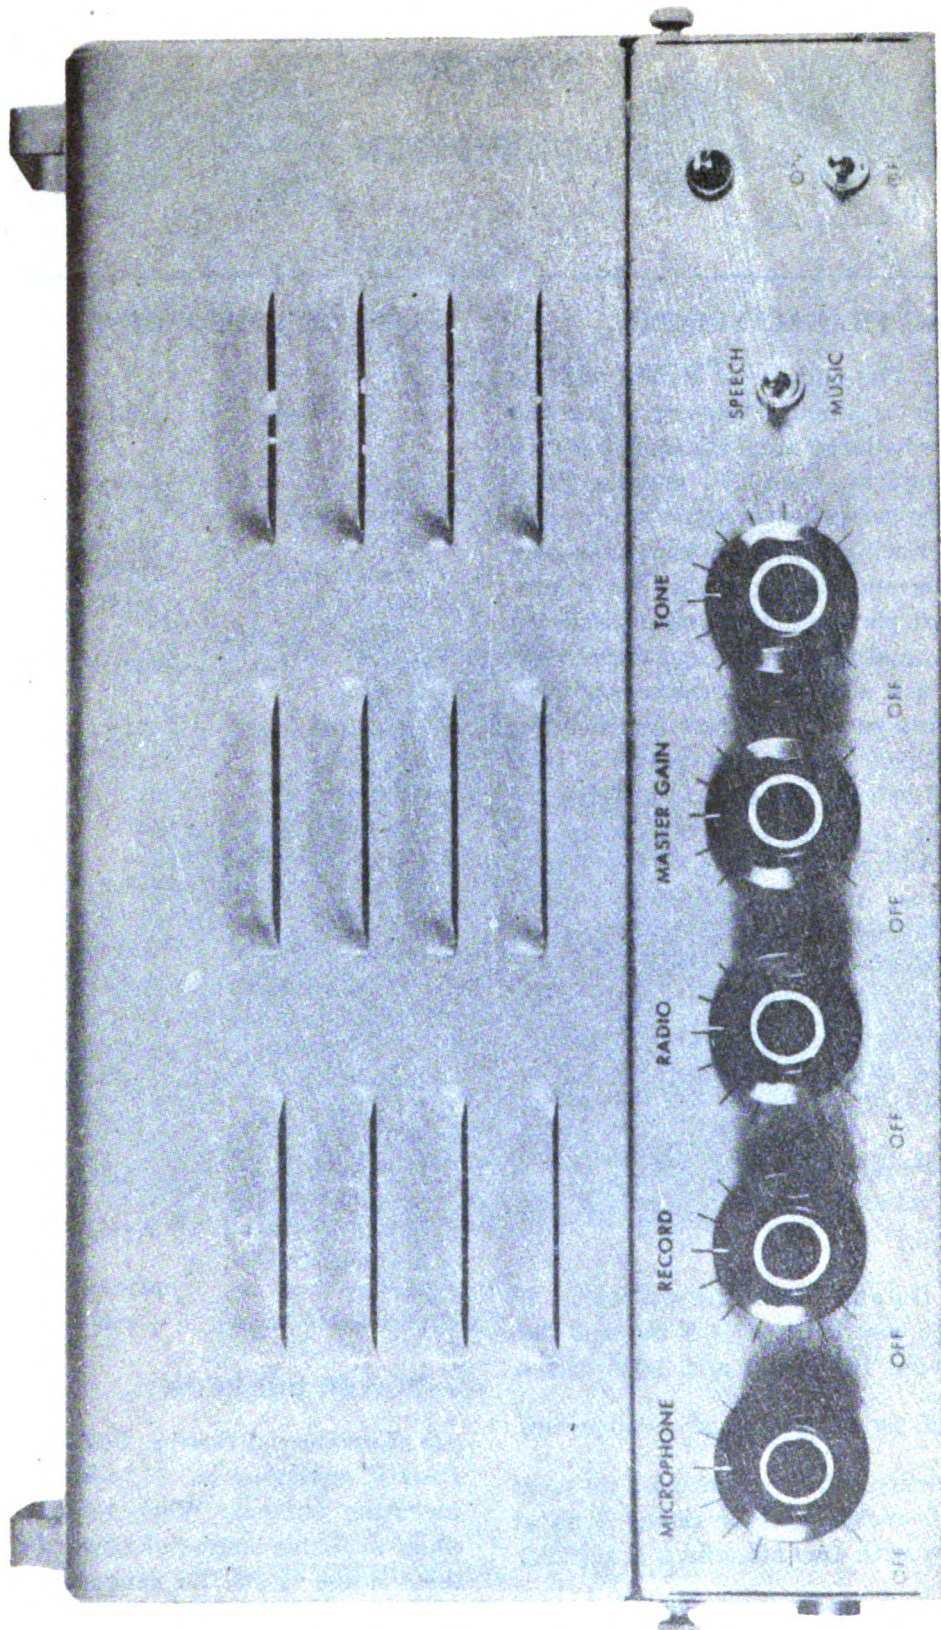

Figure 2. Public Address Set PA-1-F, amplifier, front view.
**a. Description.** The amplifier is housed in a gray metal case with two carrying handles on top. A weatherproof cover fits over the entire case for dust and rain protection when the amplifier is not in use. The operating controls MICROPHONE, RECORD, RADIO, MASTER GAIN and TONE, are on the front of the chassis. The SPEECH-MUSIC switch, the a-c ON-OFF switch, and a pilot lamp that glows red when the amplifier is being supplied with its proper voltage are also on the front panel (fig. 2). On the left side of the amplifier are the PARALLEL, RADIO, RECORD, and MICROPHONE input receptacles. The outgoing speaker line receptacle is located on the right side. The LINE VOLTAGE switch, the 4-ampere fuse receptacle, and the a-c cable are also located on the right side of the panel (fig. 3).
**12. AMPLIFIER INSTALLATION.** Remove the amplifier from its shipping box and place it on top of the box for operation. The controls facing the operator are: MICROPHONE, RECORD, RADIO, MASTER GAIN, TONE, SPEECH-MUSIC switch, pilot lamp, and OFF-ON switch. The left side of the unit has four receptacles: PARALLEL, RADIO, RECORD, and MICROPHONE. The right side has a polarized 2-pole receptacle marked SPEAKER. The cover may be removed by removing the two knurled screws on each side of the unit. With the cover removed, the output terminal board is accessible. If necessary, the bottom plate may be removed by removing the six screws. Line voltage adjustments may be made on the voltage selector switch LINE VOLTAGE at the right side of the amplifier (figs. 2 and 3).